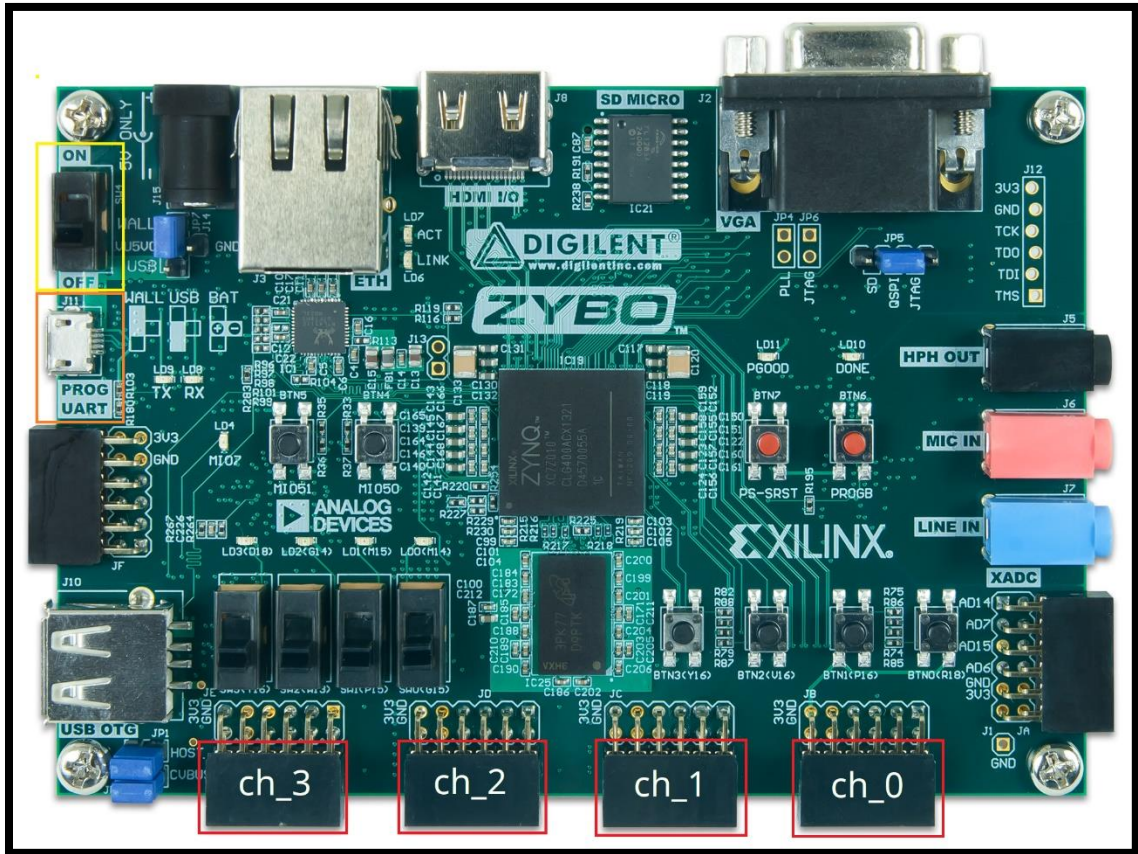
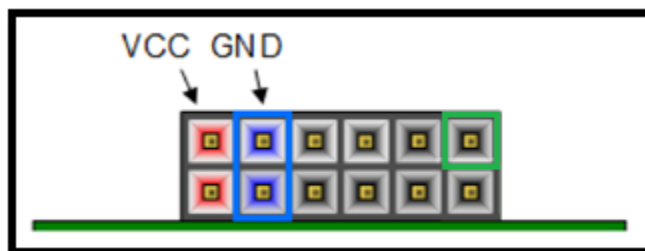

Figure 2: Zybo Board
Figure 3: Zybo Pmod Port Interface (Outlined in **Red** in Figure 2: Zybo Board)
1. Ensure the board power switch is set to **ON** position (Switch outlined in **Yellow** in Figure 2: Zybo Board)
2. Connect **micro side** of the USB-A to USB-micro cable (Port outlined in **Orange** in Figure 2: Zybo Board)
4. CAERUS produces signals on the pin outlined in **Green** in Figure 3: Zybo Pmod Port Interface (Outlined in **Red** in Figure 2: Zybo Board) for each channel in Figure 2: Zybo Board; this pin should be used to connect to target device inputs.
5. Connect the GND pin outlined in **Blue** in Figure 3: Zybo Pmod Port Interface (Outlined in **Red** in Figure 2: Zybo Board) to the target device for a common ground
1. Connect **micro side** of the USB-A to USB-micro cable (Port outlined in **Orange** in Figure 2: Zybo Board)
3. Set the Zybo board power switch to the **ON** position (Switch outlined in **Yellow** in Figure 2: Zybo Board)
3. Load the Firmware with the "Run As...", "Launch on Hardware (GDB)" cascaded menu button, shown in Figure 2.